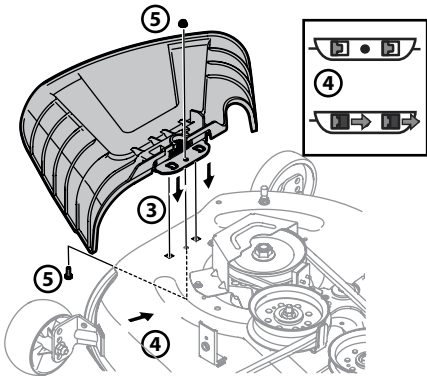

Figure 2-15
3. Place the chute deflector on the deck, be sure to insert the tabs on the chute deflector into the holes on the deck. See Figure 2-15.
4. When the tabs are installed in the deck, slide the chute deflector toward the rear of the tractor until the bolt hole in the chute deflector aligns with the hole in the deck. See Figure 2-15.
5. Secure the chute deflector in place with the flange lock nut and hex screw removed in step 2. Tighten to 102-124 in-lbs. See Figure 2-15.